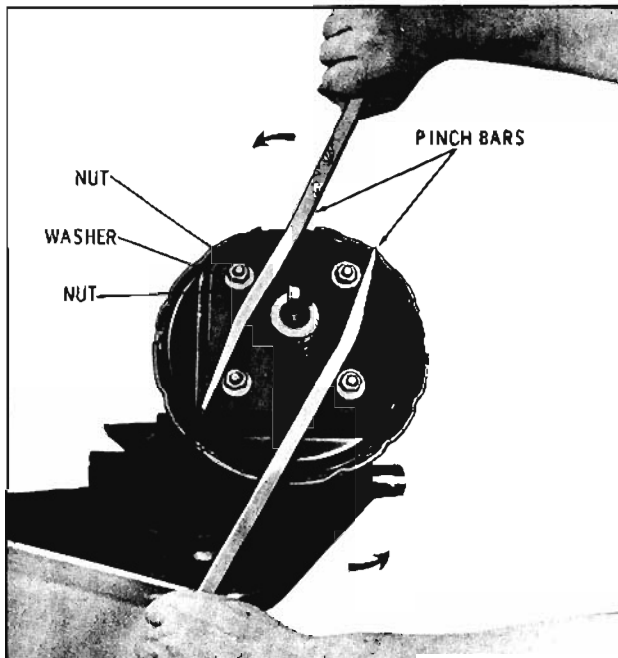

Fig. 11-45 Separating Housings
4. Brush locking tangs of front and rear housings liberally with seal lubricant. Rotate rear housing so that cut-outs in rear housing line up with tangs of the front housing. Tap rear housing lightly with a plastic hammer to assist in removal. (Fig. 11-45)